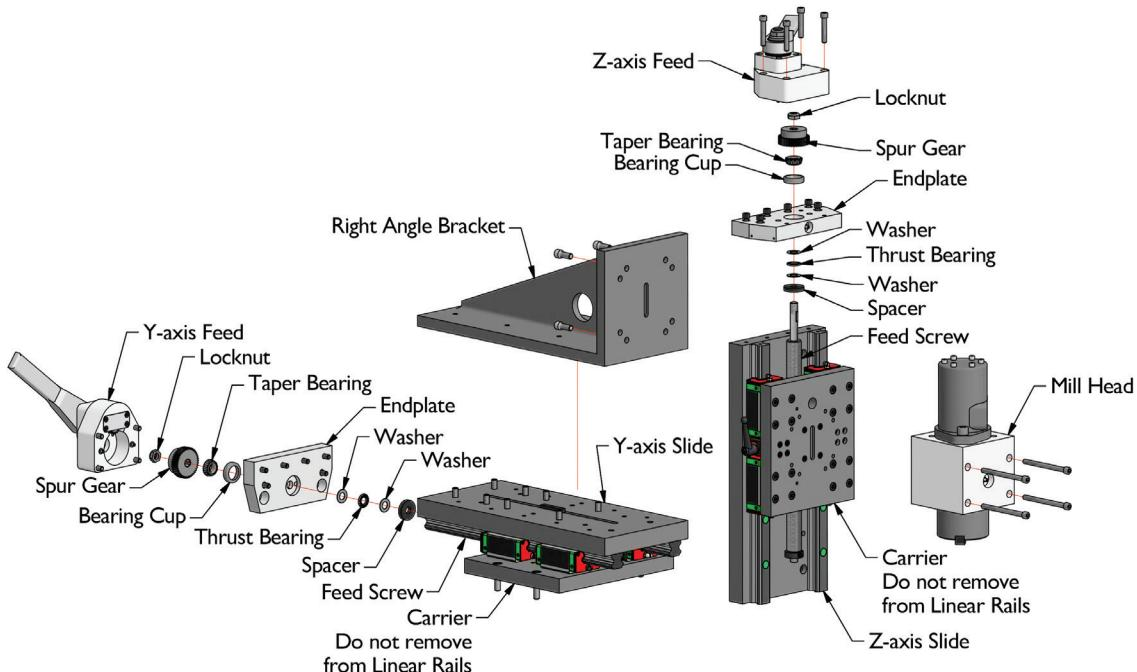

Figure 13 - Y-Z axis Slide Assembly Maintenance
- Inspect the Y-Z axis slide assembly for damaged or excessively worn components. See Figure 13 for Y-Z axis slide assembly details. Clean metal chips from the slides and rails with compressed air. Inspect the feed screws for wear or damage. Replace worn or damaged components as necessary. Apply anti-seize lubricant to screw threads.